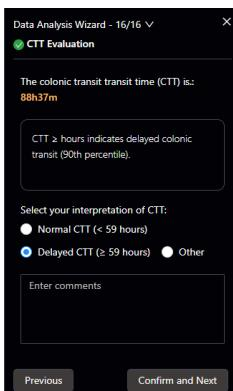

Figure 4-40 Data Analysis – CTT Evaluation
17) CTT Evaluation (Figure 4-40). Confirm the colonic transit time and select based on actual conditions. After selection, click [Confirm and Next] to proceed.